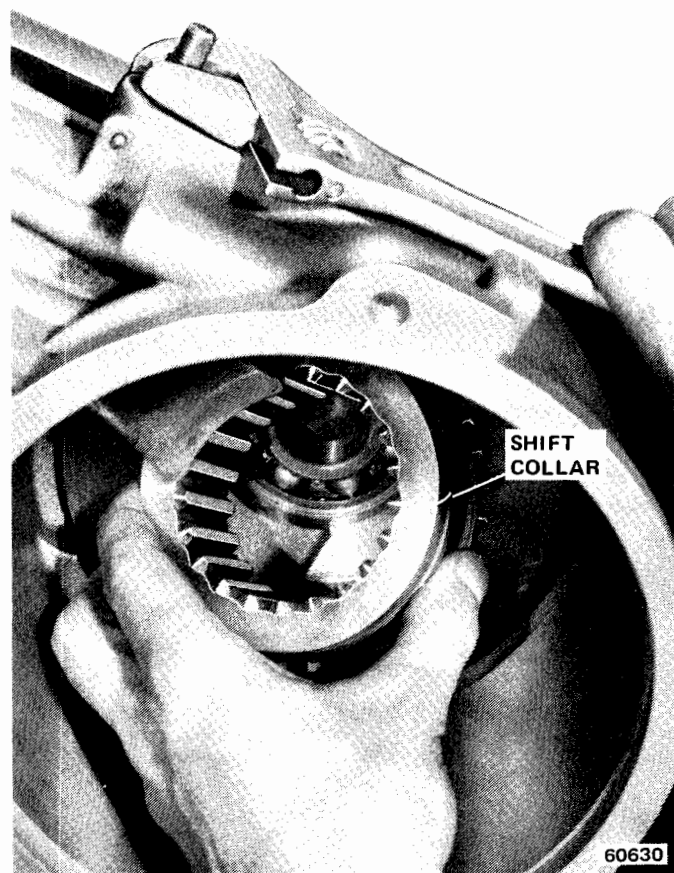

Fig. 8-29 Removing-Installing Shift Collar
(1) Move control lever to Neutral position and disengage shift collar from shift fork.
(2) Move control lever rearward to high range position and align outer teeth on shift collar with inner teeth on holding plate.
(3) Using control lever, move shift fork and shift collar forward to low range position and remove shift collar (fig. 8-29).